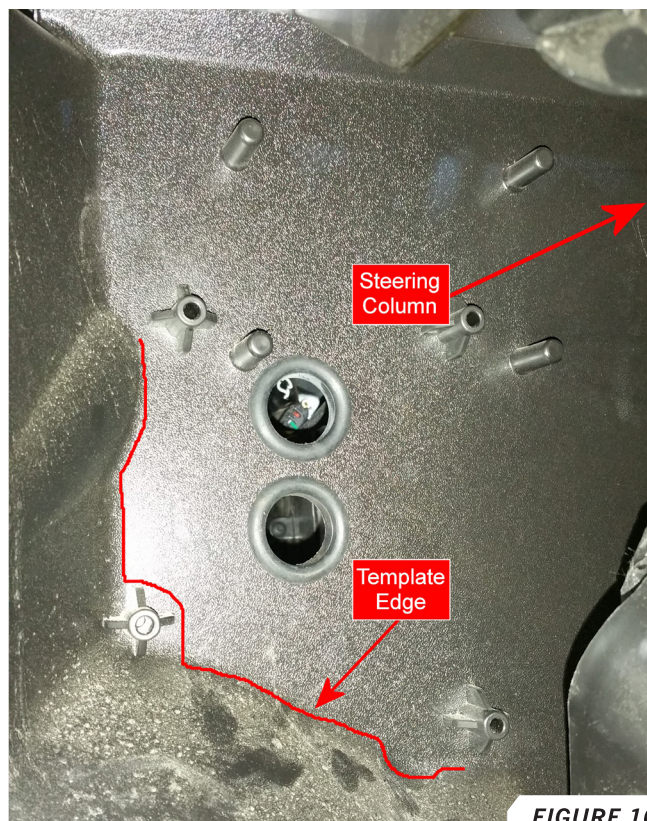

FIGURE 10
26. Cut out template #4 and attach it to the firewall to the left of the steering column as shown in *FIGURE 10*.